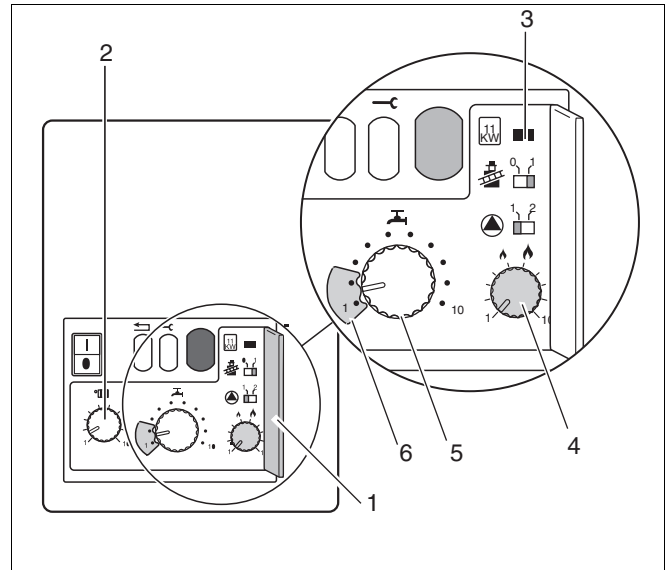

Fig. 20 Control box
- Open the cover to the 2nd operating level (fig. 20, item 1).
- Adjust the knob (fig. 20, item 2) to the desired flow temperature (table 6) for your particular installation.
Key to Fig. 20:
Set the heating capacity (table 7), according to the amount of heat required, at the controller (fig. 20, item 4).